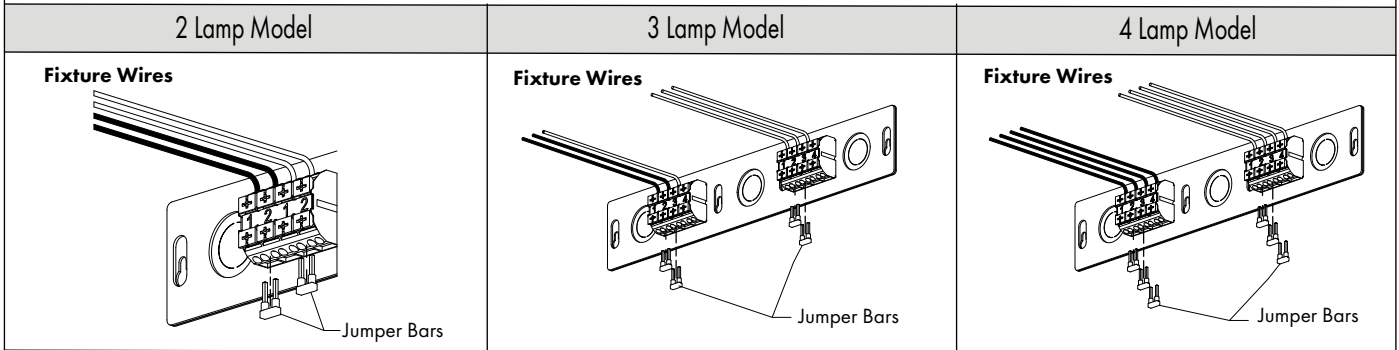

FIG 7.1 Remove Jumper Bars
1. Remove jumper bars to terminal blocks as needed for individual lamp control - FIG 7.1.